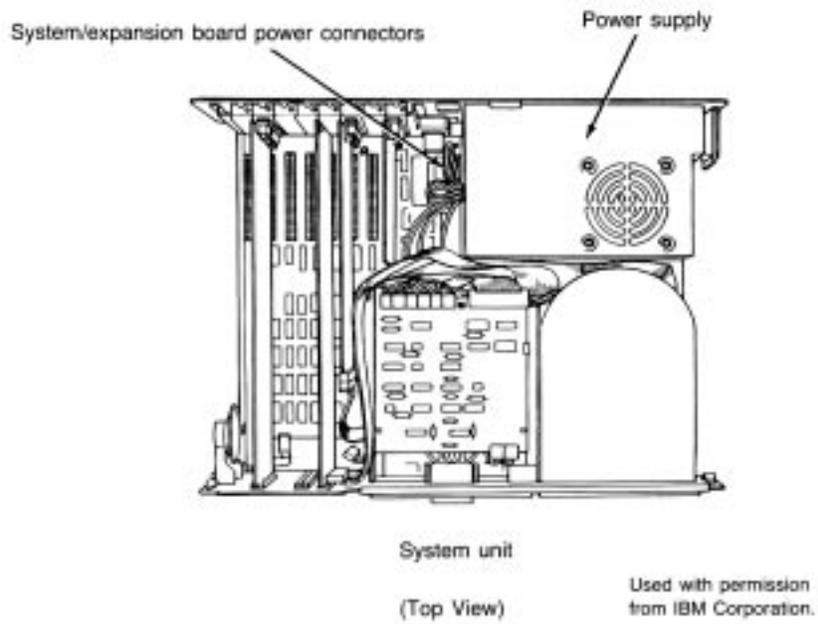

Fig. 3.9
2. Disconnect the cables from the power supply to the motherboard (see fig. 3.9). Disconnect the power cables from the power supply to the disk drives. Always grasp the connectors themselves; never pull on the wires.